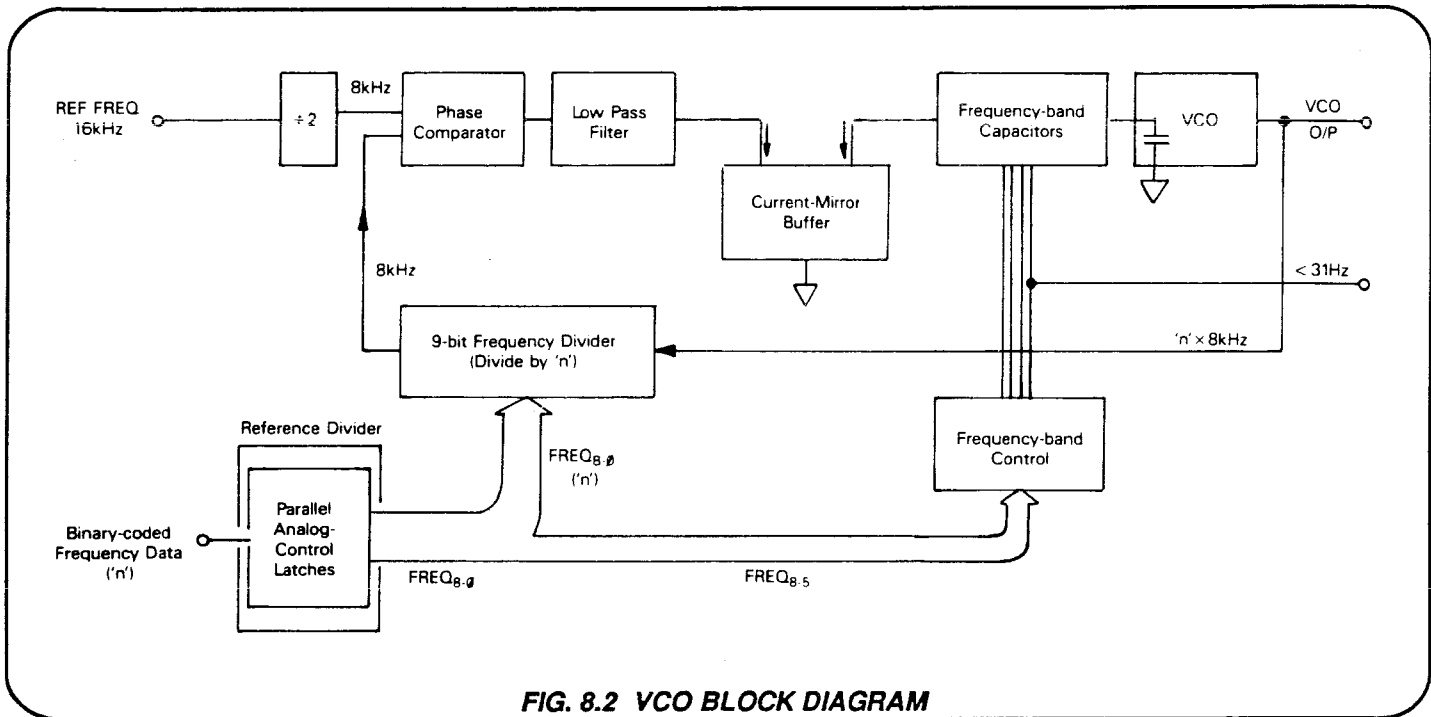

FIG. 8.2 VCO BLOCK DIAGRAM
8.1.2.3 Coarse Frequency Control (Circuit Diagram 430446 Page 11.6-4, and Fig. 8.2)
(Circuit Diagram 430446 Page 11.6-4, and Fig. 8.2)